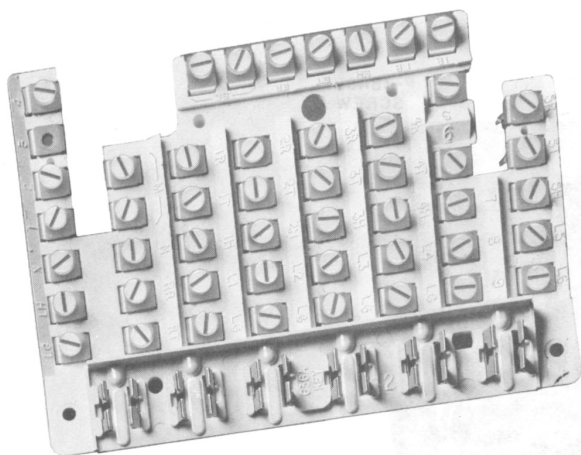

Fig. 7—636A Key, Top
- 2.13 The 636A keys (Fig. 7 and 8) used in these sets provides hold and five line pickups. The last three pickup keys may be converted to common or private line signaling.